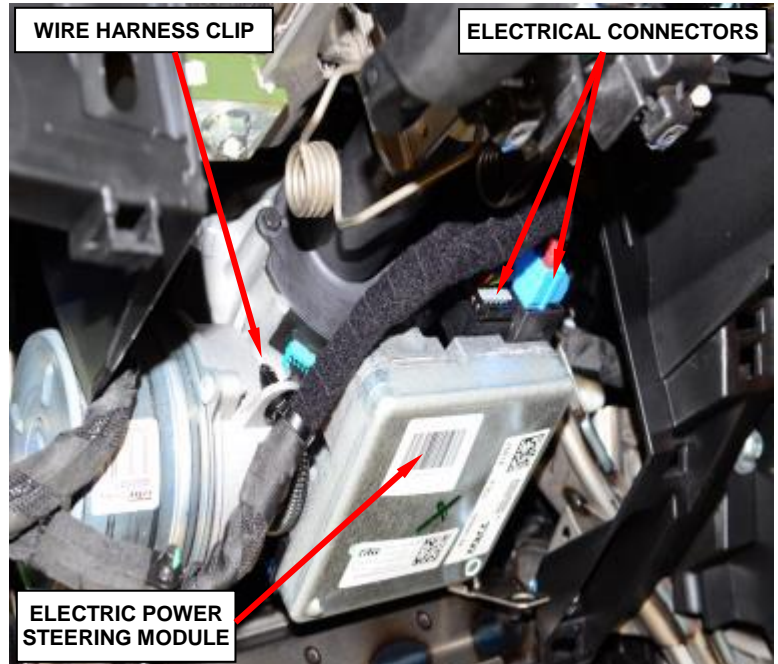

Figure 20 – Electric Power Steering Module
g. Disconnect the two electrical connectors and wire harness clip at the electric power steering module (Figure 20).